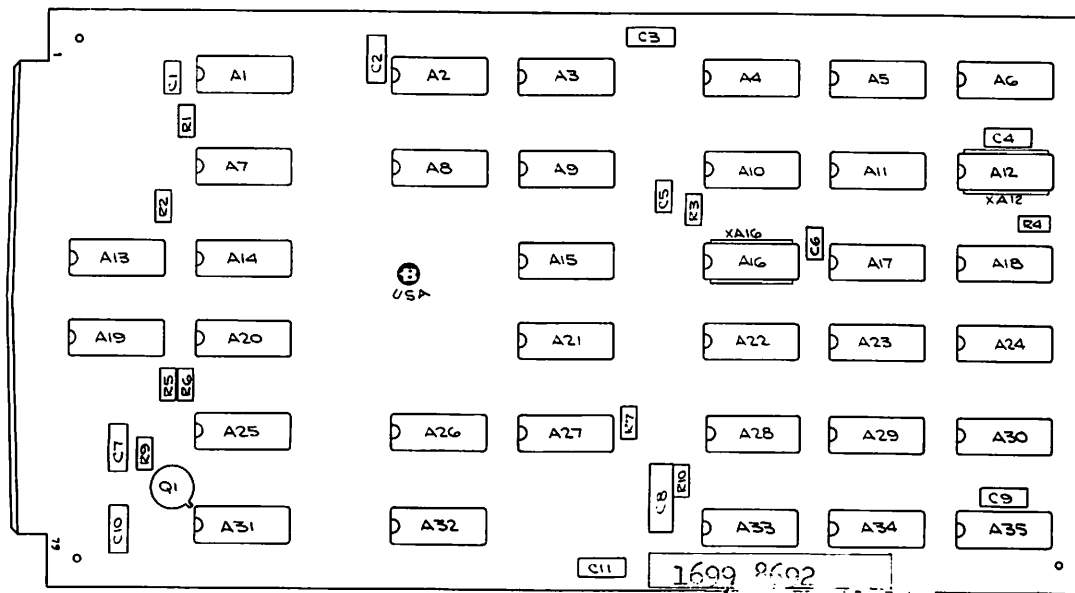

FIGURE VI.4-3 COMMUNICATION CONTROL (V BOARD) 1699 8692
To operate a TD700 without a keyboard unit, remove I-C chip (A12) from socket on V board (figure VI.4-3) and bend out pin 6 on chip. Replace chip in socket.
To inhibit the DC1 option, remove I-C chip (A16) from socket on V board (figure VI.4-3) and bend out pin 11 on chip. Replace chip in socket.
- B. Remove I-C chip (A1) from socket on V board (figure VI.4-3) and bend out pins 4 and 13 on chip. Replace chip in socket.